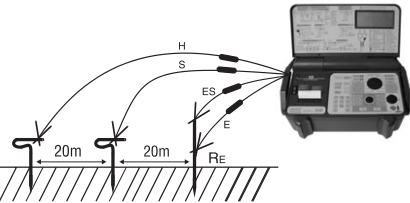

Figure 6.5.1: Connectors of leads
- ▶ Connect the 4-pole test leads to instrument, measurement connectors (17).
- ▶ Arrange the earth rods for probe and auxiliary ground connection if possible in one line as shown in figure 6.5.1. The distance between probe (S) and Earth electrode (E/ES) and similarly between probe and auxiliary ground connection (H) must be at least 20 m. Lay out the cables carefully and take care that the cables if possible do not lie alongside each other and do not cross each other in cat. to avoid capacitive coupling.
- ▶ Connect the test cables with the earth rods and the Earth electrode (see Figure 6.5.1)